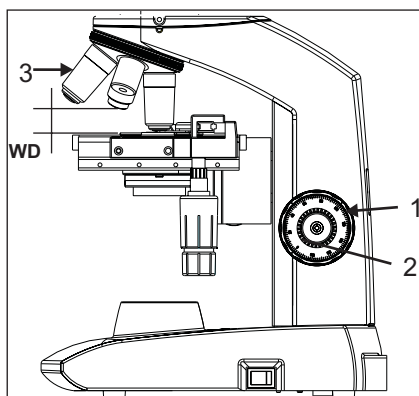

Fig. 19
1. Rotate the coarse adjustment knob (1) clockwise so that the objective (3) is as close as possible to the specimen (We recommend starting with 10X). See figure 19.
2. While observing the specimen through the eyepieces, slowly rotate the coarse adjustment knob (1) counterclockwise to lower the stage.
3. When coarse focusing of the specimen is obtained (an image is detected), rotate the fine adjustment knob (2) for fine focusing.